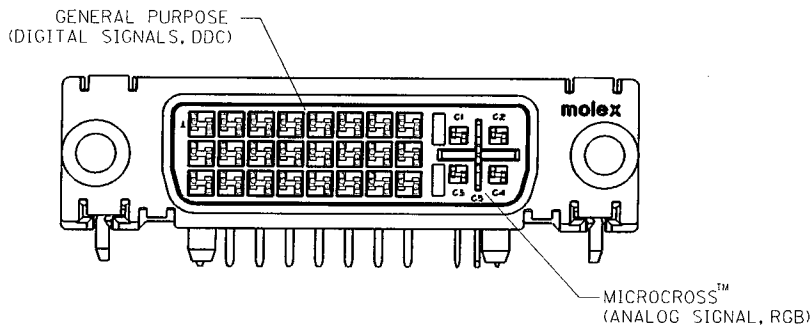

Figure 1: Two sets of contacts (DVI-I Shown)
The MicroCross™ DVI system is designed to meet the industry's requirements for analog and digital computer monitors. There are (2) different receptacle connectors which correspond to the video support present on the host system (mother board/graphics cards). The DVI-D (Digital) receptacle connector supports hosts systems that transmit digital video. The DVI-I (Intergrated) receptacle connector supports host systems that are enabled to transmit both analog and digital video. This is achieved by utilizing two different sets of contacts as shown in Figure 1 below: